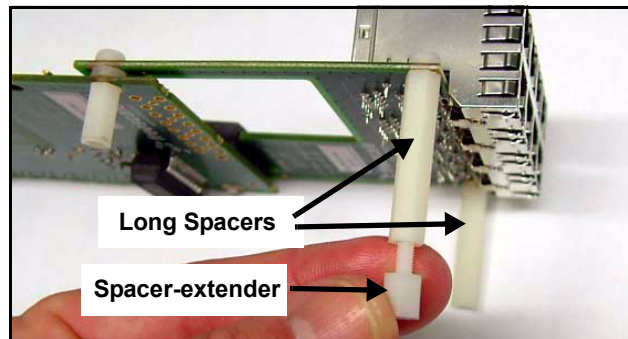
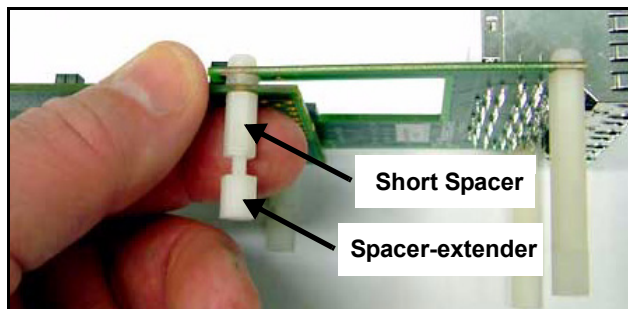

Figure 6-2. Fastening spacer-extendors to long spacers on the PQ-MDS-T1 module
Figure 6-3. Fastening spacer-extendors to short spacers on the PQ-MDS-T1 module
1. Fasten spacer-extendors to both the long and the short spacers of the PQ-MDS-T1 module, as shown in Figure 6-2 and Figure 6-3: